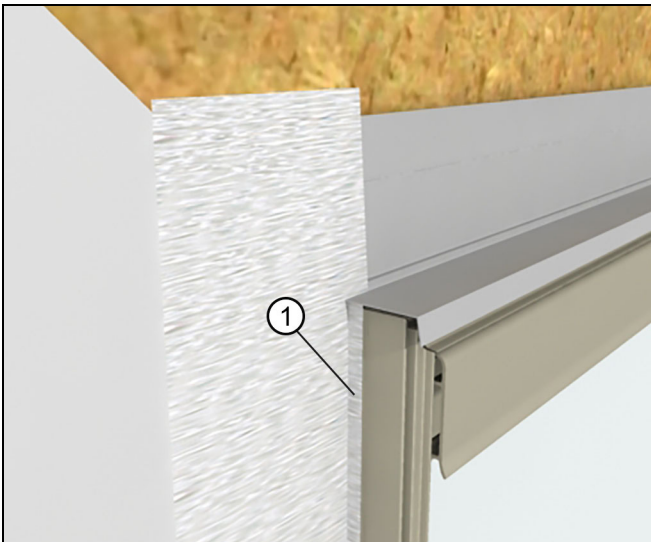

Figure 53
3. Lap vertical strips of flashing onto the unit or casing and out over the weather resistive barrier. Make small cuts at the head jamb to allow the flashing to fold back onto the exterior. See Figure 53.